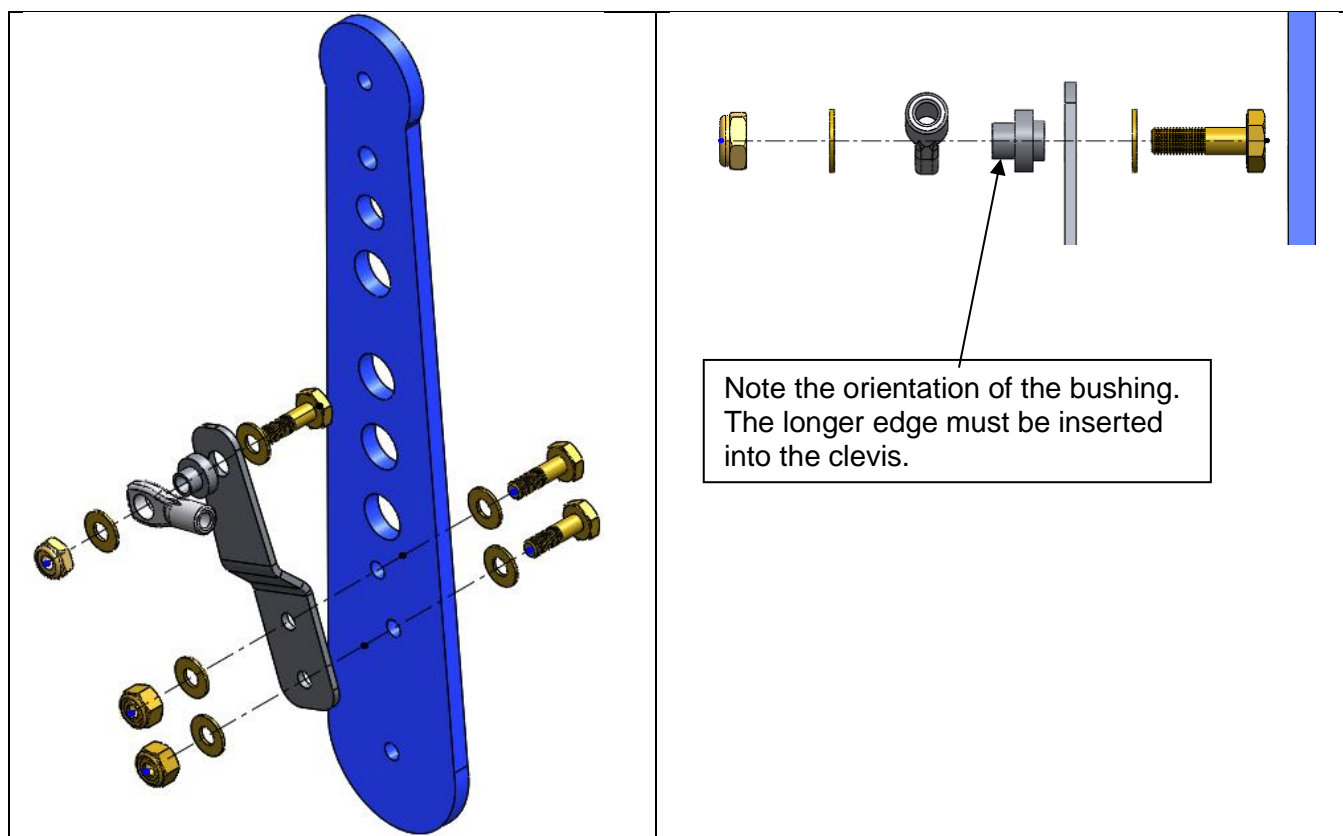

Figure 28
Step 9: Refer to Figure 28 for how the clevis gets connected to the throttle lever arm.